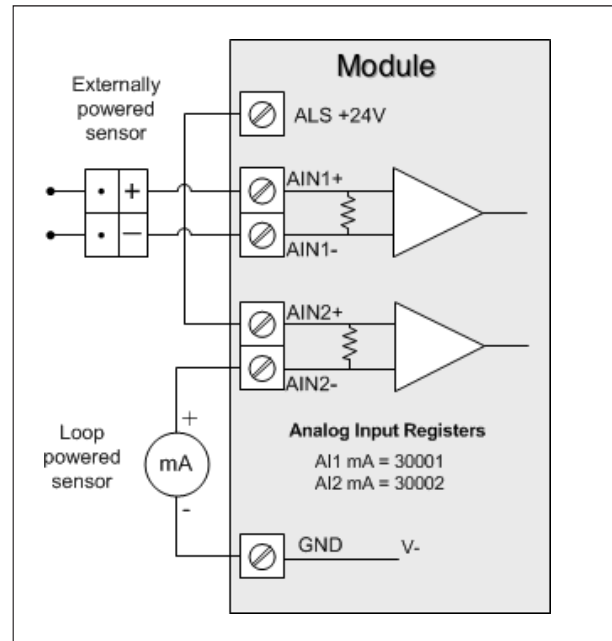

Figure 14. Differential current inputs (AI1 and AI2)
**Figure 14** indicates how to connect loop-powered or externally powered devices to the WI-IO-9-U3 differential analog inputs. It should also be noted that the differential inputs can also be used to connect single-ended current sinking or current sourcing devices.